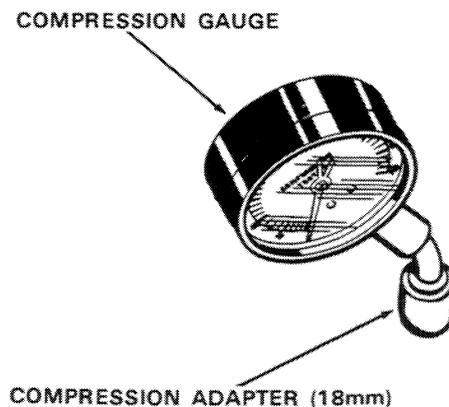

Figure 2
B. When using the ignition switch operation type of compression tester, Figure 2, be sure the carburetor throttle plate (butterfly) valve is held in the wide open position. Drain the carburetor to prevent fuel from entering the cylinders.